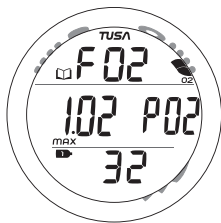

Fig. 64 - LOG DATA 2
**Log Data 2** (only if Nitrox), information includes (Fig. 64):